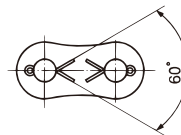

Fig.22 Open Legs of Cotter Pin
- 1) After the cotter pin has been fully inserted into the hole on the end of the pin, open the legs of the cotter pin to an angle of around 60° (Fig.22). Do not re-use cotter pins. Do not use commercially available cotter pins.